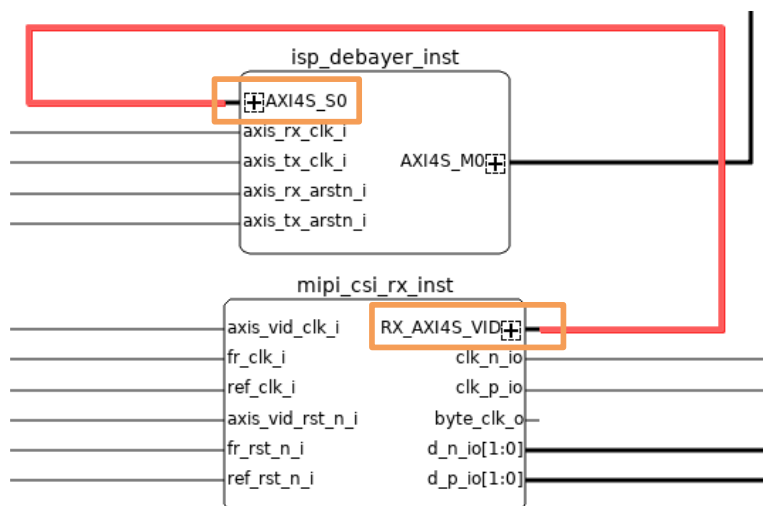

Figure 7.21. Propel Builder Connection Update for UVSI
- The unified video streaming data width has been updated, causing existing UVSI connections to be disconnected. Reconnect `isp_debayer_inst` `AXI4S_S0` to `mipi_csi_rx_inst` `AXI4S_VID`, as shown in Figure 7.21.